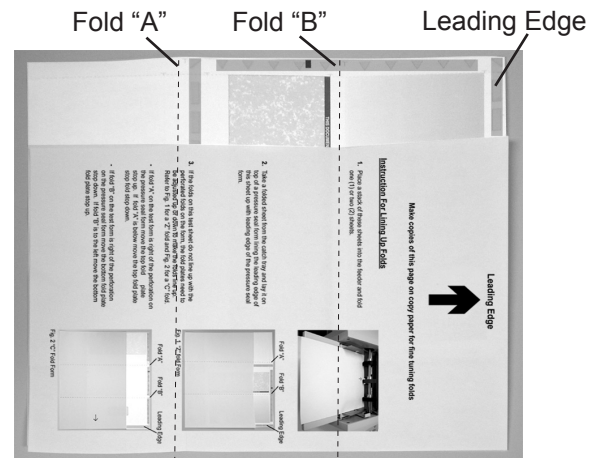
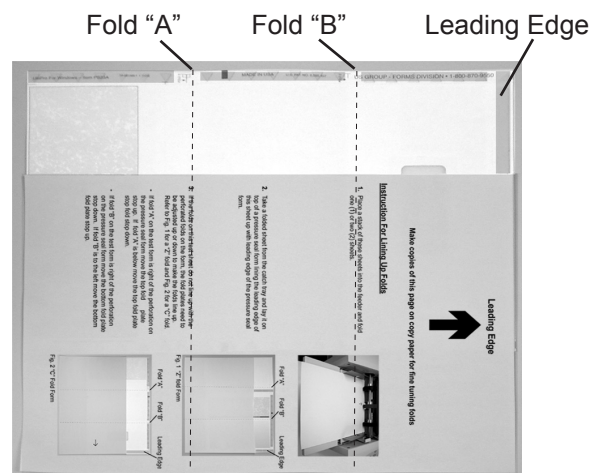

Fig. 1 "Z" fold Form
Fig. 2 "C" Fold Form
1. Place a stack of these sheets into the feeder and fold one (1) or two (2) sheets.
3. If the folds on this test sheet do not line up with the perforated folds on the form, the fold plates need to be adjusted up or down to make the folds line up. Refer to Fig. 1 for a "Z" fold and Fig. 2 for a "C" fold.